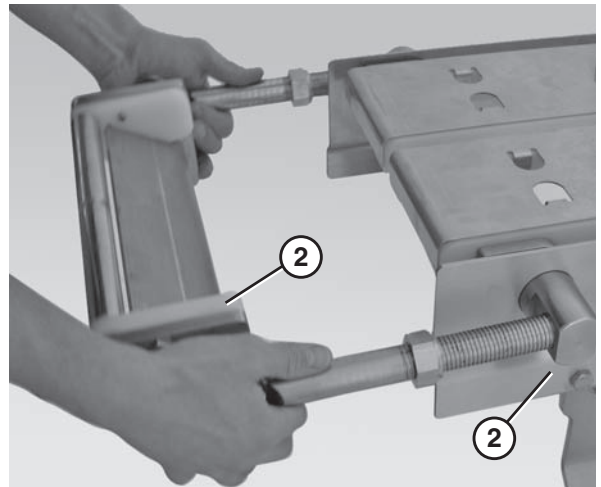

Figure 83
4. Slide the nose bar tail assembly (Figure 83, item 1) out of the take up blocks (Figure 83, item 2).